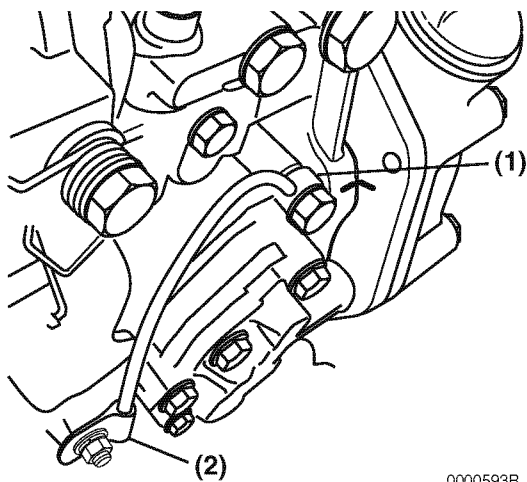

Figure 7-12
14. Disconnect the lube oil line (**Figure 7-12, (1)**) and the clamp (**Figure 7-12, (2)**) from the pump.